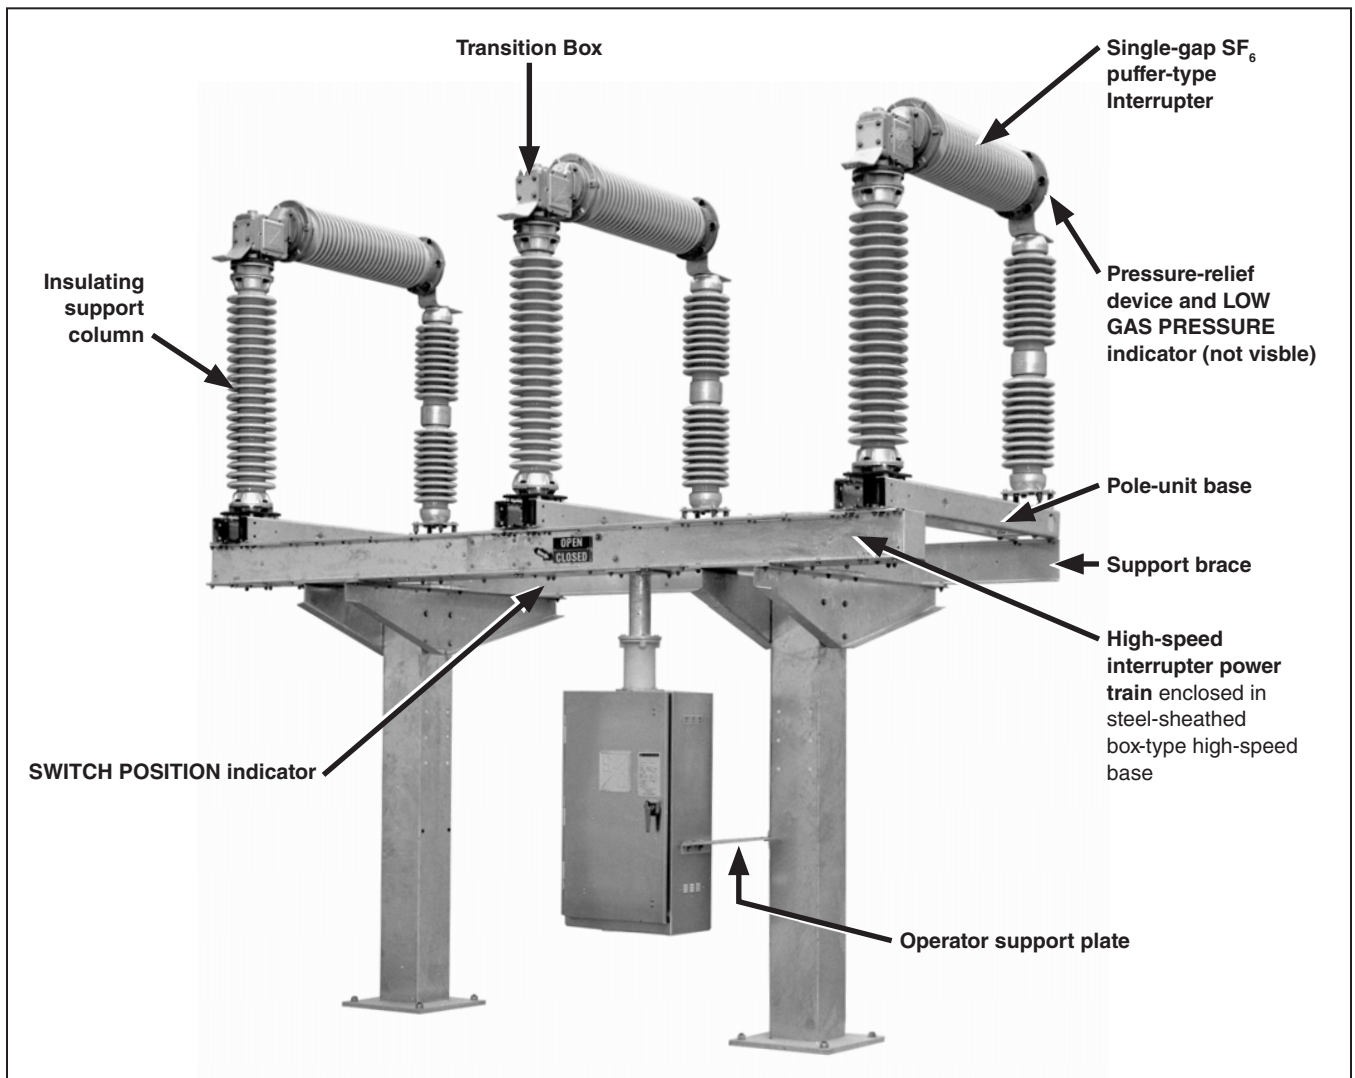
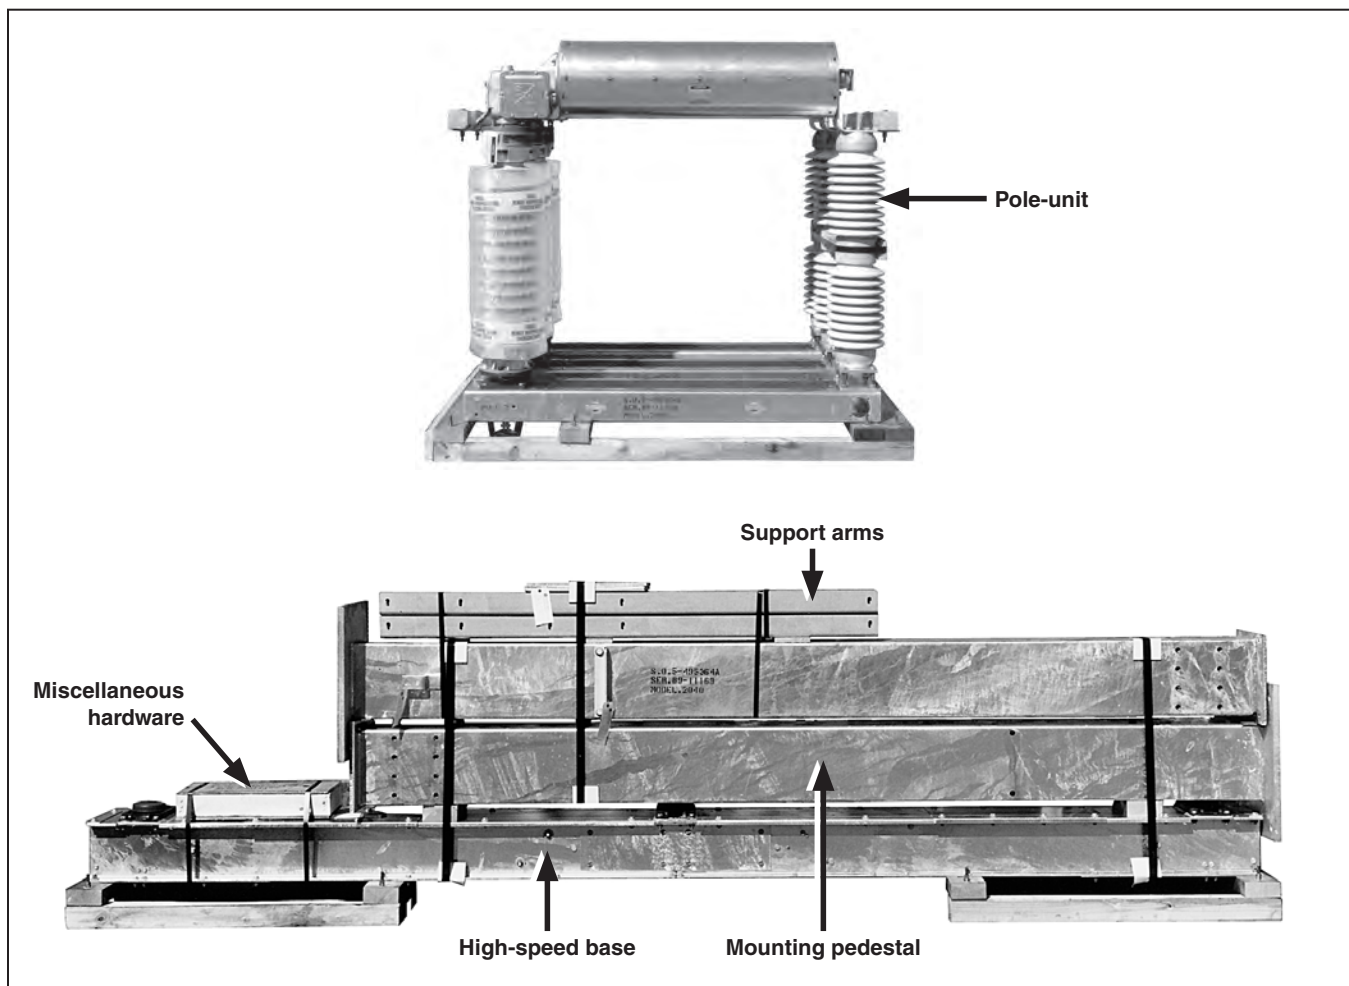
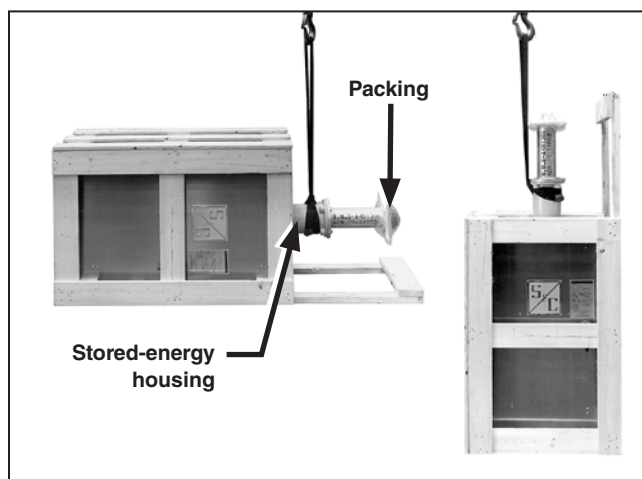
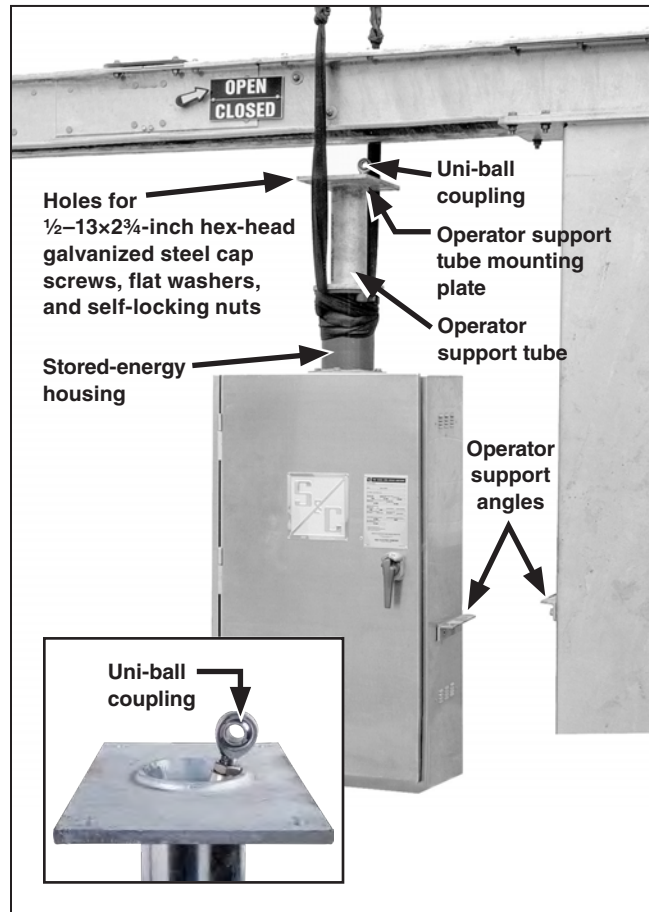

Figure 1. Model 2040 Series 2000 Circuit-Switcher rated 138 kV.
Figure 2. Typical shipment of a Model 2040 Series 2000 Circuit-Switcher. The operator is shipped on a separate skid.
Figure 8. Raising the operator up on the base of the skid.
Figure 9. Hoisting the operator into position.
An S&C catalog drawing will be found in a water-resistant envelope attached to the wrapper around one of the insulating support columns. Study this drawing carefully and check the bill of materials to verify all parts are at hand. The Model 2040 Series 2000 Circuit-Switcher shipment should include the following items, as shown in Figure 1 on page 9 and Figure 2 on page 10.
Cut the steel straps binding the mounting pedestals to the high-speed base. Cut the straps binding the container of operating mechanism components and hardware and the straps binding the pole-units. Remove any wood bracing between the terminal pads. See Figure 2 on page 10.
STEP 2. Attach the support arms to the mounting pedestals, as shown on the catalog drawing, using the $\frac{5}{8}$ -11 \times 1 $\frac{1}{4}$ -inch hex-head galvanized steel cap screws and flat washers furnished. See Figure 1 on page 9. Lubricate the nuts to facilitate tightening
STEP 5. Attach the support brace to the support arms using the $\frac{1}{2}$ -13 \times 2-inch hex-head galvanized steel cap screws, flat washers, and self-locking hex-nuts furnished. See Figure 1 on page 9 and the catalog drawing. Lubricate the hardware to facilitate tightening.
- STEP 2.** Wrap a lifting sling around the stored-energy housing of the operator, as shown in Figure 8 (left). Carefully raise the operator to the upright position so it rests on its base skid, as shown in Figure 8 (right).
Remove the skid and bracing running the length of the operator, the stored-energy housing, and the operator support tube. See Figure 8. Also remove the protective cover and packing on top of the operator support tube as well as the packing on the operator enclosure louvers. See Figure 8 and Figure 9 on page 14.
- (a) Reposition the lifting sling around the front of the stored-energy housing and wrap another lifting sling around the back of the stored-energy housing, as shown in Figure 9. Make sure the operator door faces the same way as the SWITCH POSITION indicator on the high-speed base.
STEP 5. Attach the operator-support plate to the angle on the side of the operator enclosure and to the operator support angle on the mounting pedestal using the four $\frac{1}{2}$ -13 \times $1\frac{1}{4}$ -inch hex-head galvanized-steel cap screws, flat washers, and self-locking hex nuts furnished. Lubricate the bolts to facilitate tightening. Securely tighten the screws. See Figure 1 on page 9 and Figure 9.